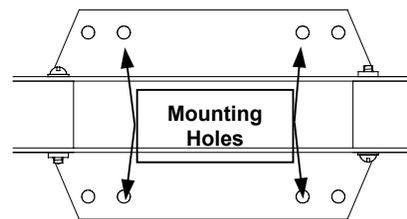

Figure G.5-10: Model 10XR-UT Blinder Mounting Holes
- 3) Align the Horn Blinder with the inner holes over the bezel retaining holes {Figure G.5-10}.